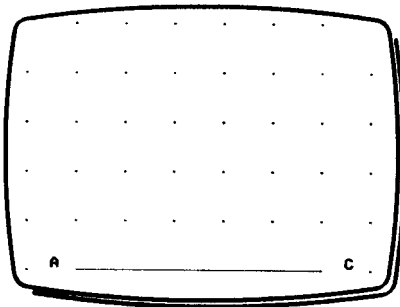

Fig 1
- 3 Draw the baseline (AC), 5 units long as in Fig 1, (an odd number is used to show how the grid can be re-planted using FIND).